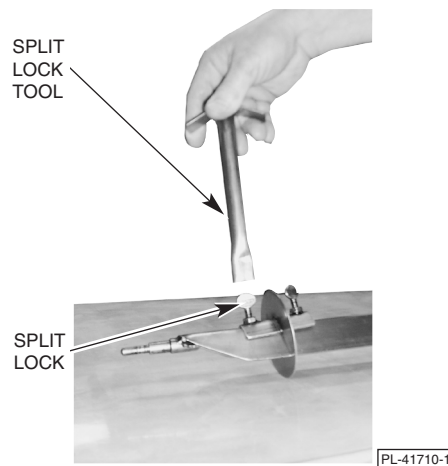

**Fig. 20**
- Ensure that the legs and breasts are on the same flat side of the angle V-spit (Fig. 20).